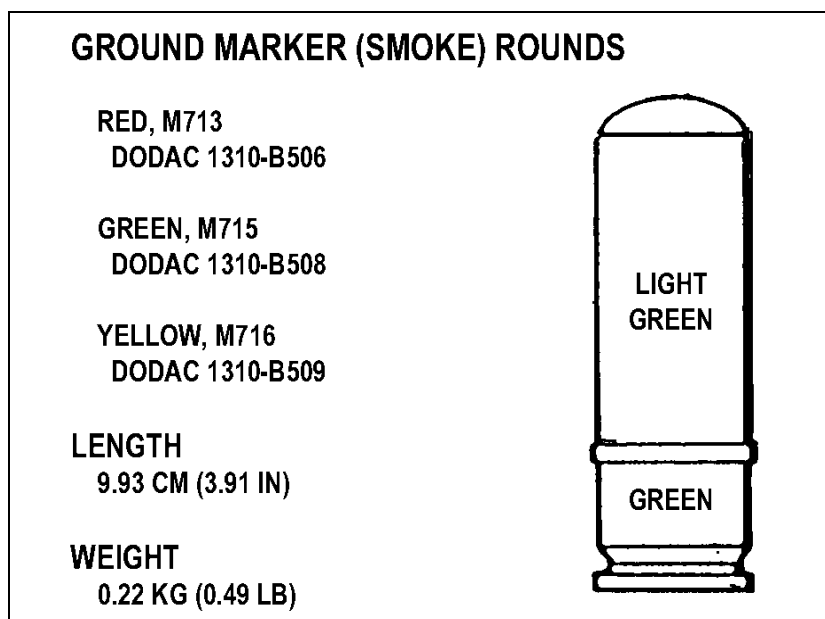

Figure 3-14. Ground marker round (smoke).
(5) **Ground Marker Round.** This round is light green impact aluminum with black markings (Figure 3-14). It is used for aerial identification and for marking the location of soldiers on the ground. It arms between 15 and 45 meters. If a fuze fails to function on impact, the output mixture provided in the front end of the delay casing backs up the impact feature. The color of the ogive indicates the color of the smoke.